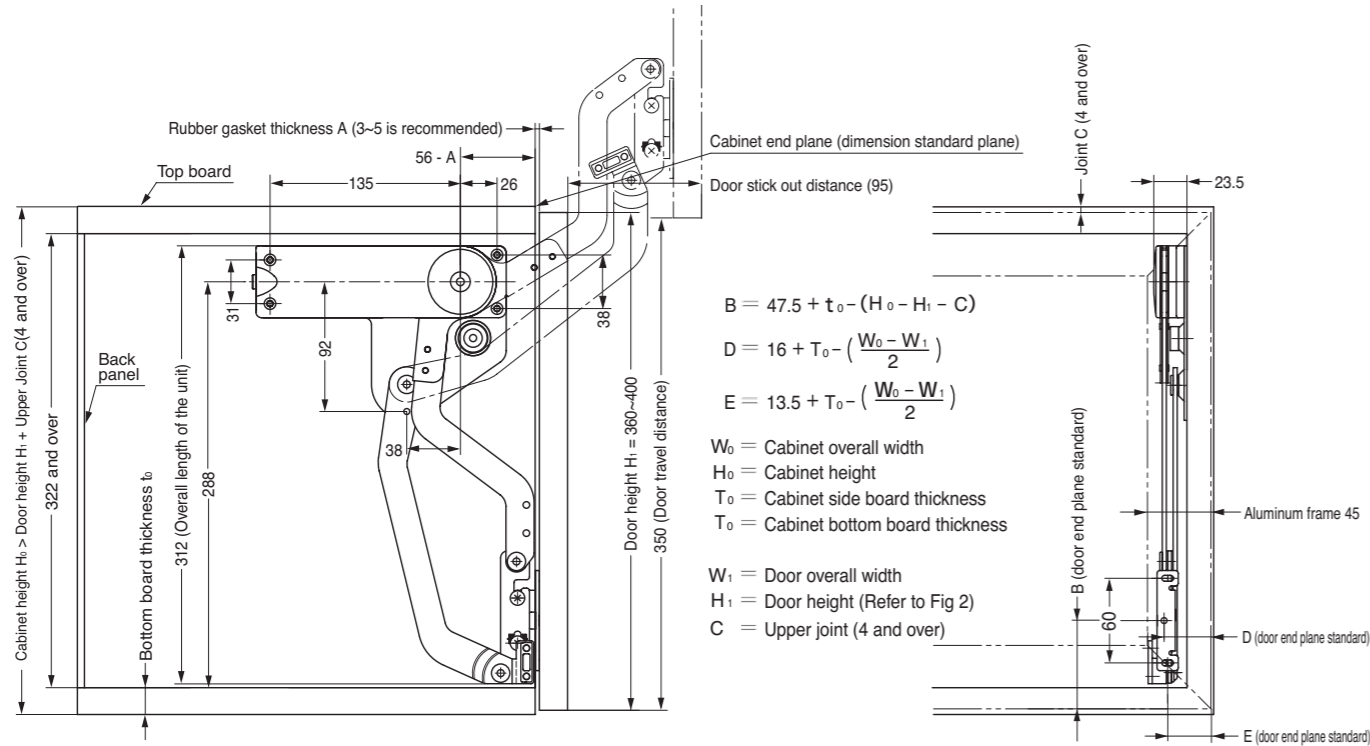
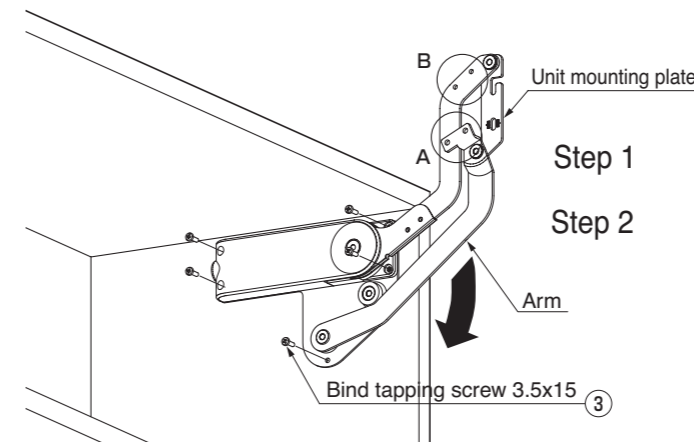

Fig.3. Mounting dimensions for installing to 45mm width aluminum frame door or solid wooden door
Fig. 5. Installation of side body
- The guide bar as a rule is mounted to only the part A of the arm. (Fig. 5) When more stable movement is required, it is necessary to add another guide bar and mount it to the part B of the arm. (Fig. 5)
- Step 1. Place the SLUH body unit; ① SLUH right-hand side body and ② SLUH left-hand side body to the specified position of the inside surface of the cabinet (as for the mounting dimensions refer to Fig. 3 and 4) and fix the positions with the attached bind tapping screws 3.5x15 ③. (Fig. 5)